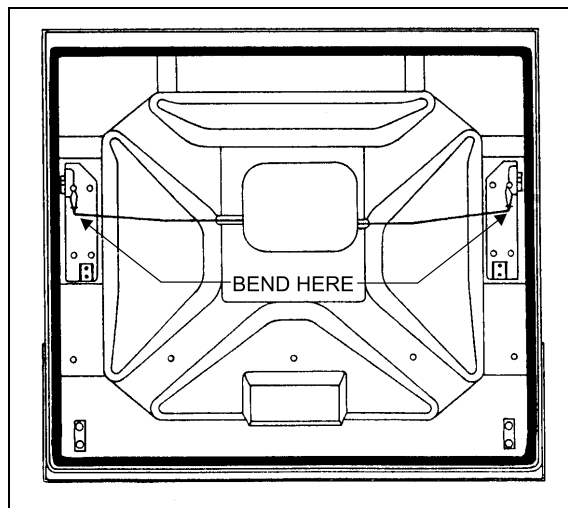

FIGURE 49: BAGGAGE COMPARTMENT DOOR 18067
4. With door slightly open, pull door handle while an assistant checks that both latches release simultaneously. If not, with latch engaged, gently bend the appropriate latch control rod until proper timing is achieved (Fig. 49).